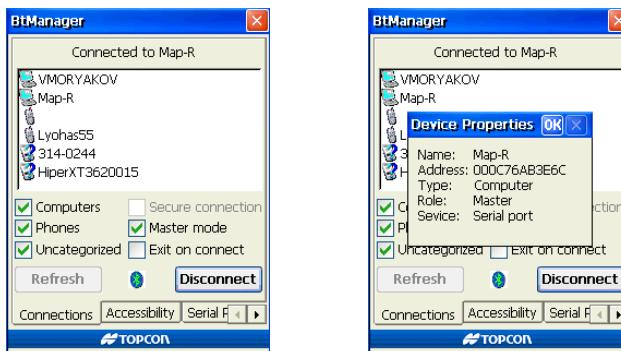

Figure A-5. Connected to Device and Device Properties
Once a connection has been established, the Bluetooth Indicator turns green (Figure A-5). The connection to the module will remain established until you tap **Disconnect**, even if BTManager is closed.
- To view information on the connected device, double-tap the device (Figure A-5).